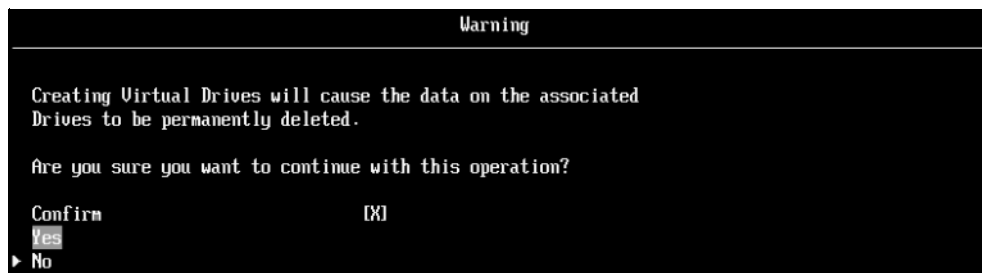

Figure 5-31 Warning and confirmation of RAID array creation
12. Select **Save Configuration** and confirm that you want to create your RAID array, as shown in Figure 5-31.